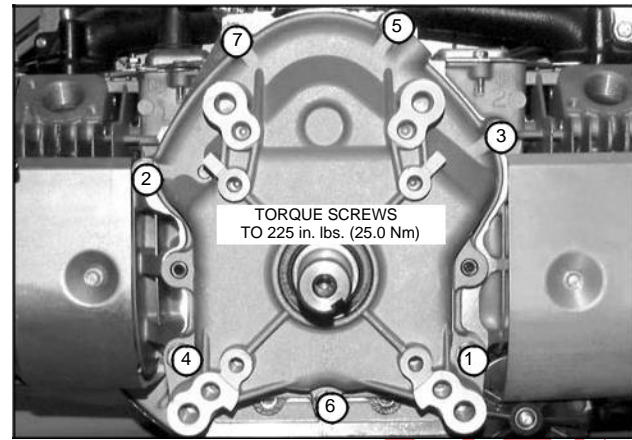

Fig. 10 – Torque Screws
3. Torque screws to 225 in. lbs. (25.0 Nm), Fig. 10.